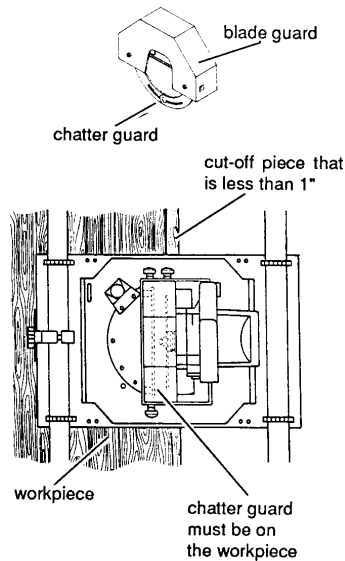

Figure 28: Chatter Preventer (H Series shown, in position for crosscutting)
11. When making cuts that are less than 1 inch (25.4mm), the chatter guard (located inside the blade guard) must be resting on the work piece, not on the cut-off piece. See Figure 28. If it is not positioned this way, it will jam the work piece and prevent the carriage from continuing through the cut. If the saw jams, turn the tool OFF and wait for the blade to stop. Then back the saw out of the cut.
11. When making cuts that are less than 1 inch, the chatter guard (located inside the blade guard) must be resting on the work piece, not on the cut-off piece. See Figure 28. If it is not positioned this way, it will jam the work piece and prevent the carriage from continuing through the cut. If the saw jams, turn the tool OFF and wait for the blade to stop. Then back the saw out of the cut.